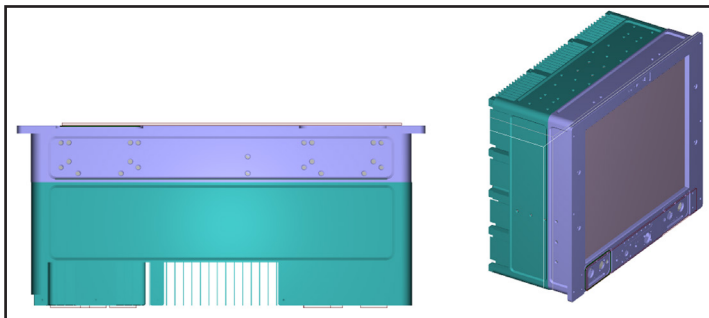

Figure 3. ATS Created a CFD Baseline Model of the Ruggedized Rack System
- Built a full CFD baseline model of the ruggedized rack system (Figure 3)